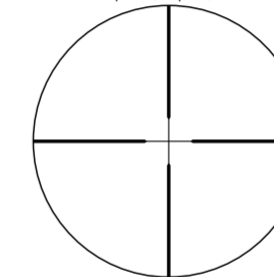
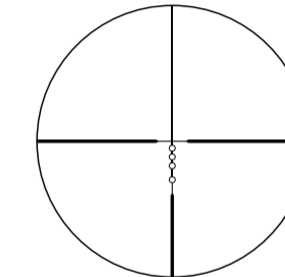

Fig. 3-1
Fig. 3-2
(1) Focusing
- 1 Look through the eyepiece with your eye positioned about 10 cm (4 in) away from the eyepiece to see either the Nikoplex (Duplex) reticle (Fig. 3-1), or BDC150 reticle (Fig 3-2) depending on your purchased product. Be sure your eye is positioned within proper alignment and proper eye relief, otherwise the view will "black out."